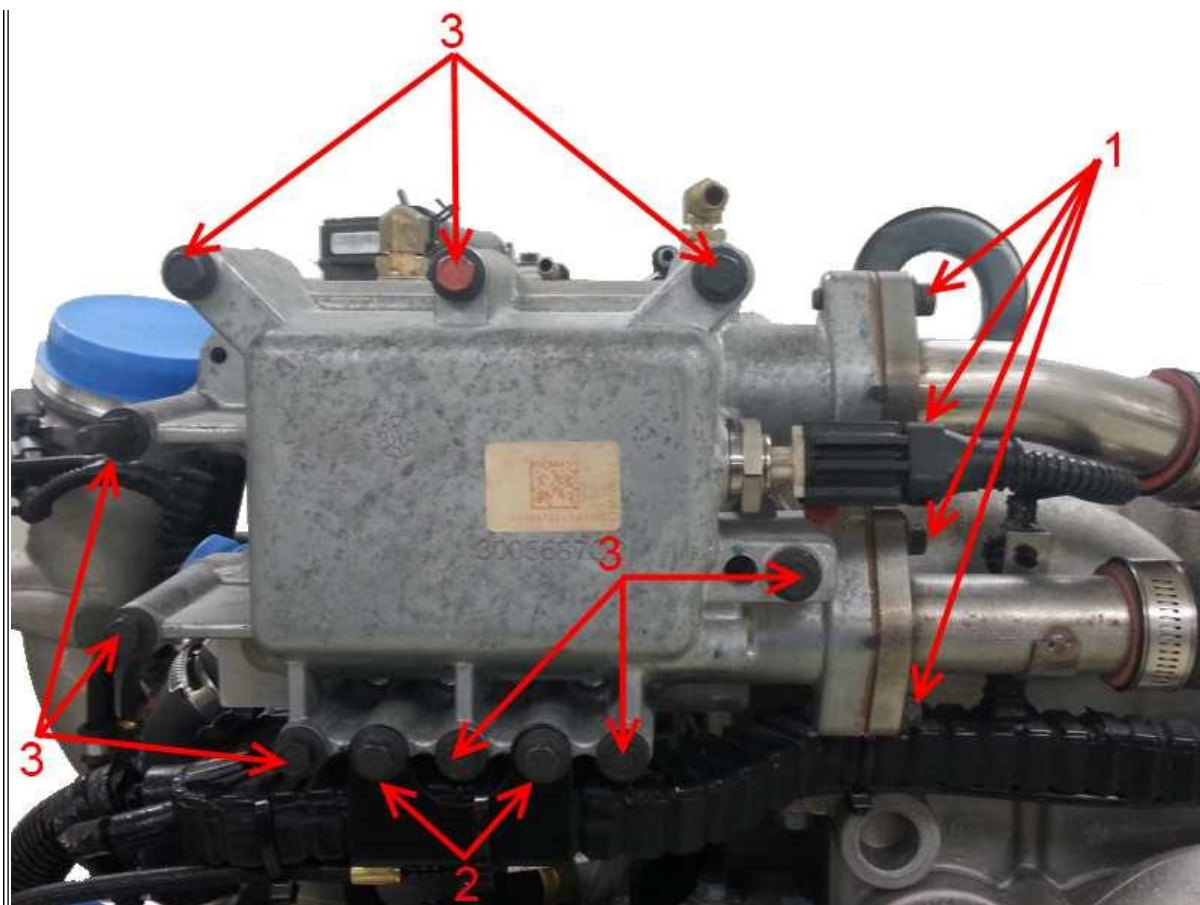

Figure 10: EGR Outlet Cover, Bolts and Tubes
10. Install the front cover, noting the location of the stud bolt in **Figure 10**.